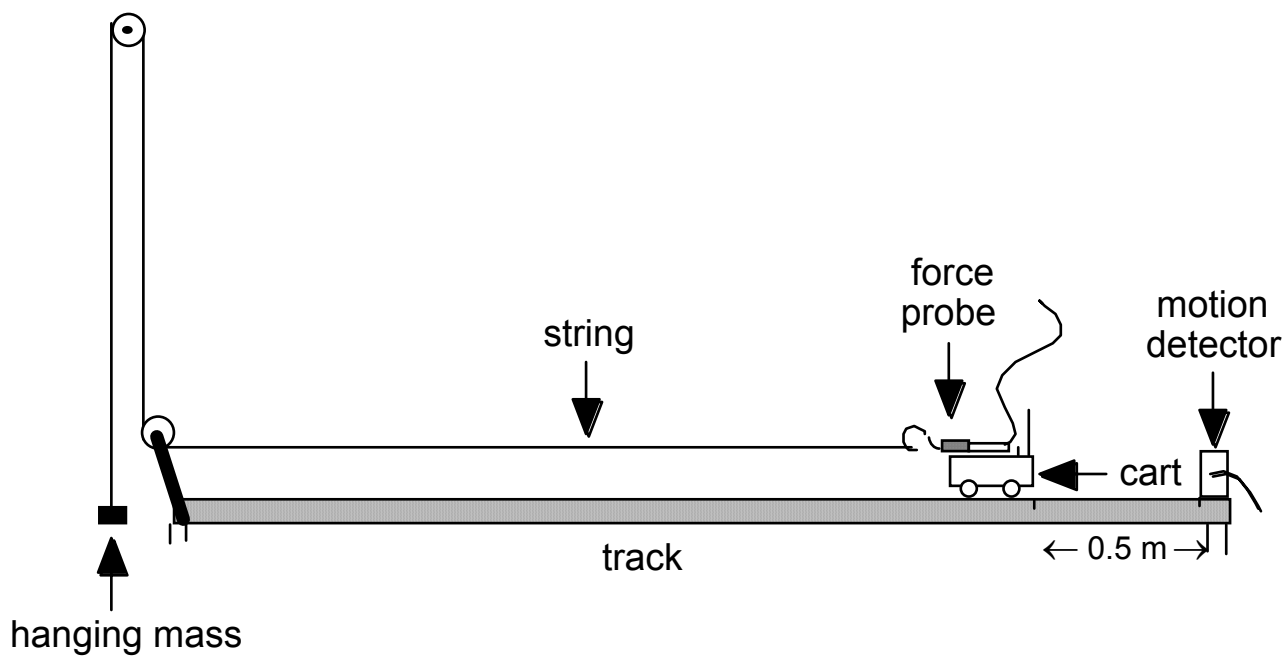
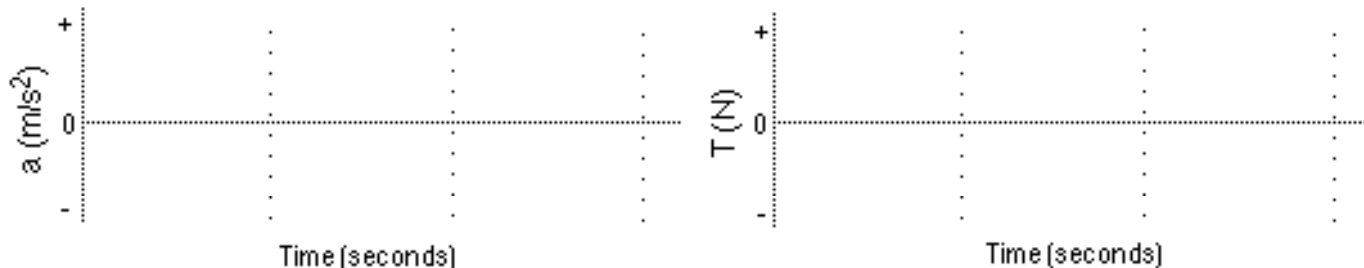

Figure 10. Experimental setup for Activity 3
Figure 11. Predictions for Activity 3
2. Attach the force probe to the cart with the Velcro pad, so that the probe is oriented with respect to the cart as shown in Figure 10.
4. Set up the equipment as in Figure 10, making sure that the cart's friction pad doesn't contact the track at all, and that the string is in the groove of the pulleys. Also, it's *important* that you make sure that the track is level.
- Suppose that you hold the cart shown in Figure 10 stationary. Sketch in Figure 11 *using a solid line* your predictions for the cart's acceleration and the force (i.e., string tension, T) measured by the force probe.
- If you now release the stationary cart so that it is allowed to accelerate, will the tension measured by the force probe be greater than, equal to, or less than that when the cart is stationary? Sketch in Figure 11 *using a dashed line* your predictions for the cart's acceleration and the tension measured by the force probe in this case.
- Remove any mass hanging at the end of the string shown in Fig. 10.
8. Analyze your data for comparison with your predictions. Select **Analyze Data A** from the **Analyze** menu. Determine the mean measured values for tension and acceleration for both (A) stationary and (B) accelerating cases. Record these averages in Table 3 and compute the percent difference from your predictions if the values are nonzero.